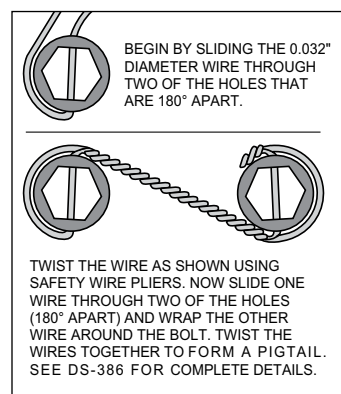

Figure 4
STEP 7 Orient the rotor (21) and the hat (22) as shown in Figure 1 and Photo 8. Attach rotor to hat using bolts (23) and washers (24). Apply red *Loctite*® 271 to the bolt threads and torque to value shown in Figure 1 using a criss-cross pattern. For an added measure of security, the bolts may be safety wired using standard 0.032 inch diameter stainless steel safety wire as shown in Figure 4. Refer to Wilwood's data sheet DS-386 (available at www.wilwood.com/Pdf/DataSheets/ds386.pdf) for complete safety wire installation instructions.
STEP 8 Slide the rotor registration adapter (25) onto the axle register on the axle flange with the smaller O.D. facing toward the rotor/hat (21/22), Photo 9. Slide the assembled rotor/hat (21/22) onto the axle flange. **NOTE:** The rotor/hat must fit flush against the axle flange or excessive rotor run out may result. Install three lug nuts (finger tight) to keep the rotor/hat assembly in place while continuing with the installation, Photo 10.
- **For kit p/n 140-18295:** Initially place two .035" thick shims (14) on each stud (15) between the caliper and the bracket, Photo 11a.
- **For kit p/n 140-18296:** Place one spacer (13) and initially two .035" thick shims (14) on each stud (15) between the caliper and the bracket, Photo 11b.